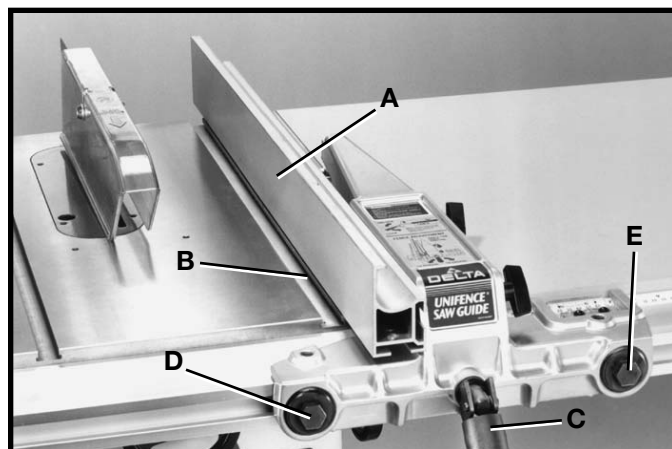

Fig. 115
The fence (A) Fig. 115, should be adjusted so it is parallel to miter gage slots (B). To check and adjust, move the fence (A) until the bottom front edge of the fence is in line with the edge of the miter gage slot as shown, and push down on fence clamping lever (C). Check to see if the fence is parallel to the miter gage slot the entire length of the table. If the rear of the fence must be moved, slightly tighten or loosen one of the adjustment plugs (D) or (E) Fig. 115, using the arbor wrench or 7/8" wrench, until the fence is parallel with the miter gage slot. **IMPORTANT: DO NOT OVERTIGHTEN ADJUSTMENT PLUGS (D) AND (E) FIG. 115. VERY LITTLE MOVEMENT OF THESE ADJUSTMENT PLUGS IS NECESSARY WHEN ADJUSTING THE FENCE PARALLEL WITH THE MITER GAGE SLOT.**